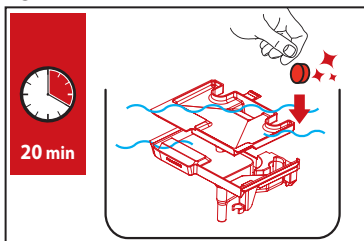

Fig.5
3. Place the mixing tray in a bin with locally approved food-grade cleaning agent and hot water and soak for approximately 20 minutes. (See Fig.5) Rinse with clean water before replacing.